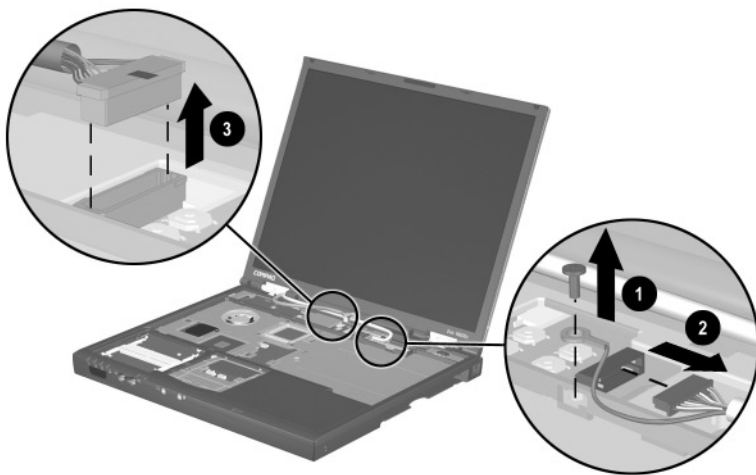

Figure 5-18. Disconnecting the Display Cables
5. Remove the TM2.5 × 7.0 screw that secures the display ground cable to the top cover ❶ (Figure 5-18).